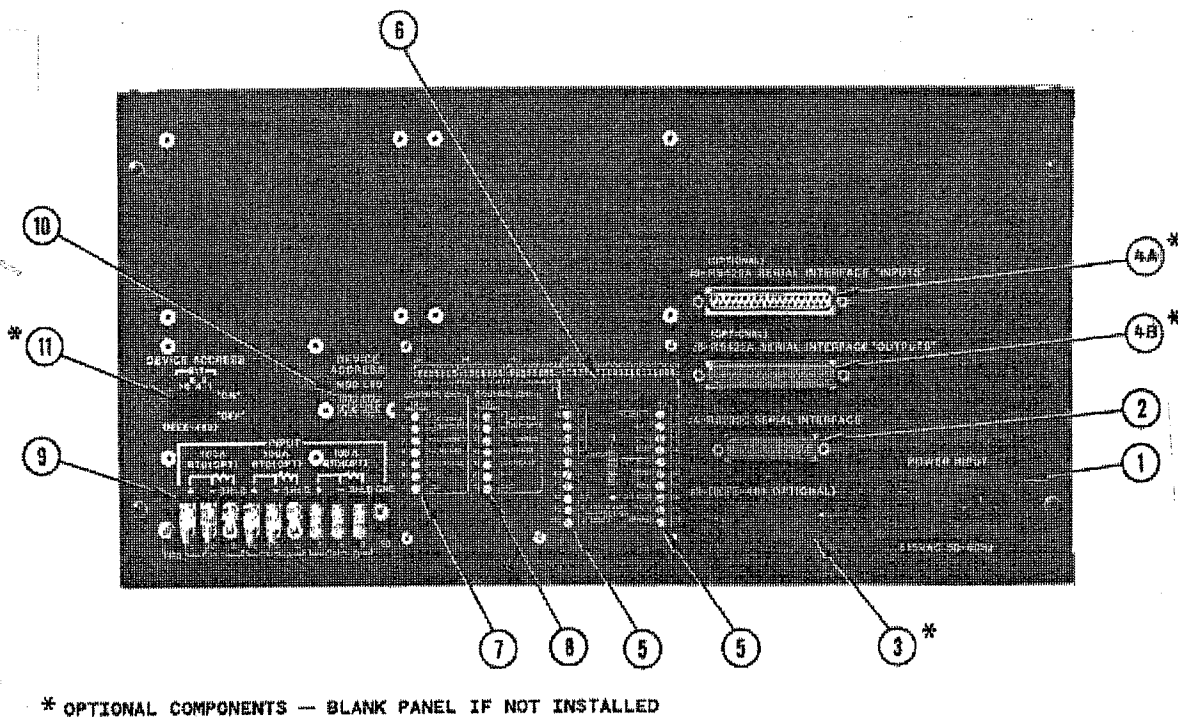

Figure 3-2: Rear Panel Connectors and Terminals.
Connect events solid-state relays to appropriate terminals of TB3 (Figure 3-2, Item 5) as shown in Table 3-4. (If you're using the JCS Model A1748 Event Relay Board, you can connect the cable supplied with that accessory directly to panduit J1 on the Model 520 rear panel (6); the pin assignments correspond to the terminal assignments listed in Table 3-4.) The terminals identified as 14 through 19 are used for external control signals; their use will be explained later.